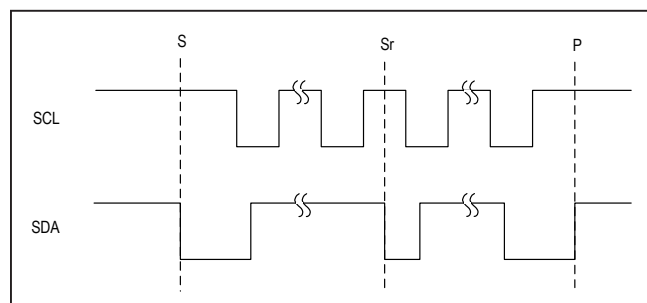

Figure 14. I²C START, STOP, and REPEATED START Conditions
When writing to the MAX20345 using I²C, the master sends a START condition (S) followed by the MAX20345 I²C address. After the address, the master sends the register address of the register that is to be programmed. The master then ends communication by issuing a STOP condition (P) to relinquish control of the bus, or a REPEATED START condition (Sr) to communicate to another I²C slave. See Figure 14.